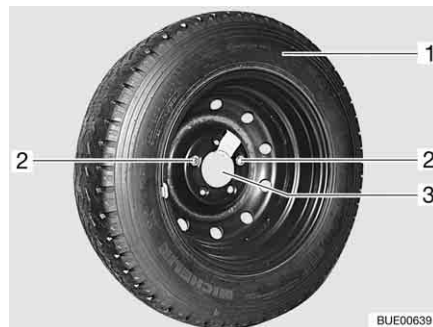

Fig. 257 Spare wheel support in the rear garage
- Loosen and remove both fixing screws (Fig. 257,2) with the on-board tool set.
- Remove the spare wheel (Fig. 257,1) from the support (Fig. 257,3).